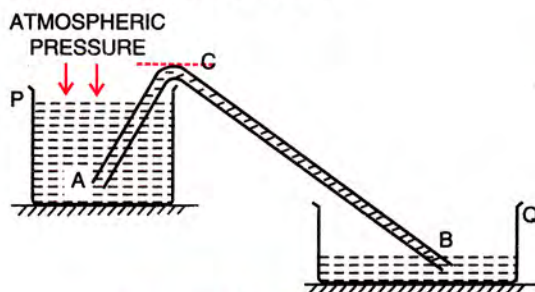

Fig. 4.17 Siphon system
- (v) **Action of a siphon system :** Water is supplied from a higher level to a lower level using a siphon system. Fig. 4.17 shows the siphon system in which there are two vessels *P* and *Q*. Vessel *P* is at a higher level than the vessel *Q*. Water contained in the vessel *P* is passed to the vessel *Q* by means of a glass (or rubber) tube *AB* with one end *A* kept immersed inside water in vessel *P*, while the other end *B* is kept open in vessel *Q*. To transfer water from vessel *P* to vessel *Q*, first air is sucked out from the tube at the lower end *B* of it, so that pressure inside the tube decreases. It becomes less than the atmospheric pressure acting above the water surface in vessel *P*. Due to excess pressure at *A*, water rises in the tube through the end *A*, so as to reach up to the level *C*. Then water flows down through the tube from the higher level *C* to the lower level *B* in the vessel *Q* due to the difference in pressure of water at the levels *C* and *B*.